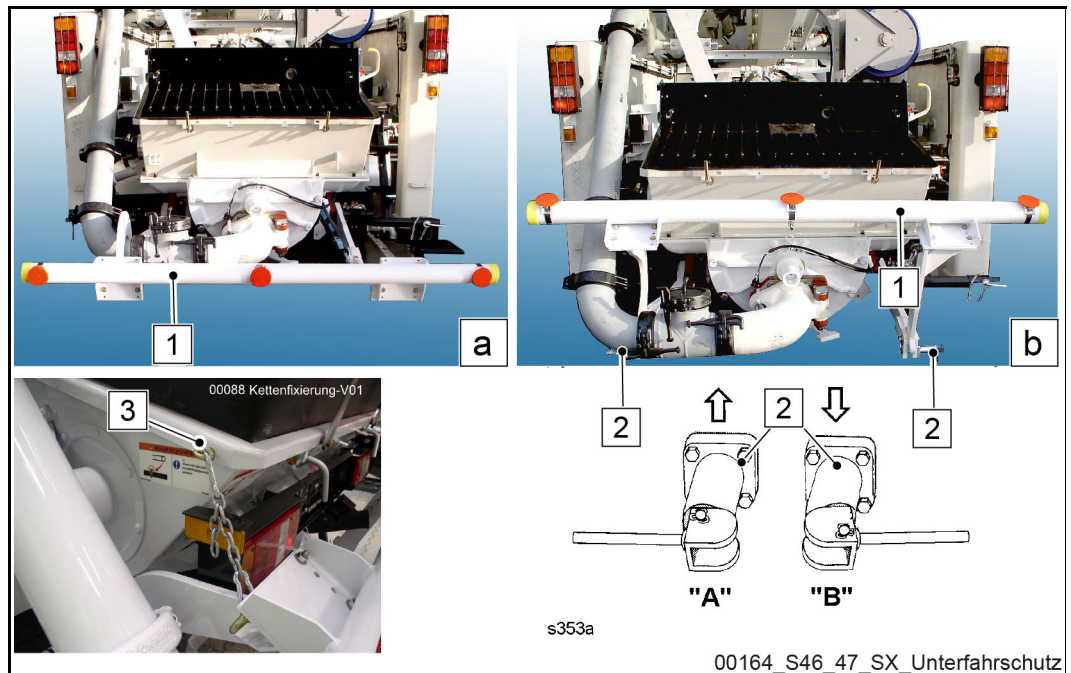

Fig. 49 Underride protection
Caption (Fig. 49)
Release both locks (2) (**Fig. 49**) on the underride protection (position **A = secured**, position **B = released**).
- Secure the underride protection using the chain fastener (3) (**Fig. 49**) on the left-hand side of the hopper.